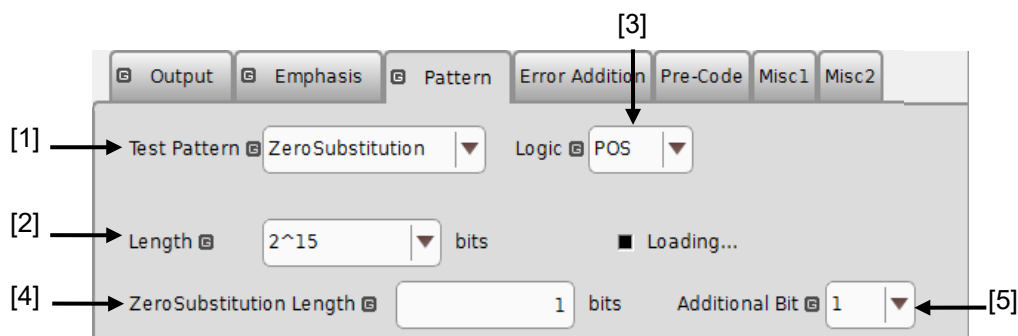

Figure 5.3.3-1 Setting items for ZeroSubstitution pattern
- [4] Set the number of 0-insertion (substitution) bits. The number of available 0-insertion bits varies depending on the pattern test signal selected from the Length drop-down list ([2] in Figure 5.3.3-1) as follows.